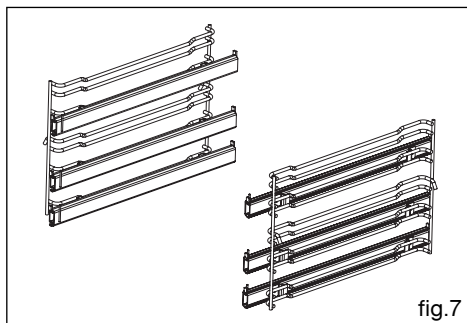

fig.7
- **Dish extracting support (fig.7)**